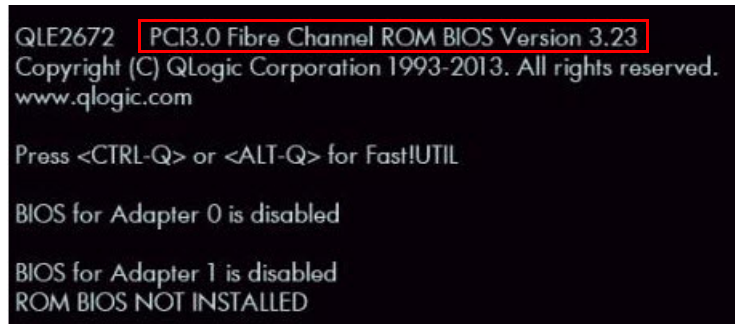

Figure 3-3. System Power-on Initialization
1. During system power-on initialization, press the CTRL+Q or ALT+Q keys. Figure 3-3 shows an example.